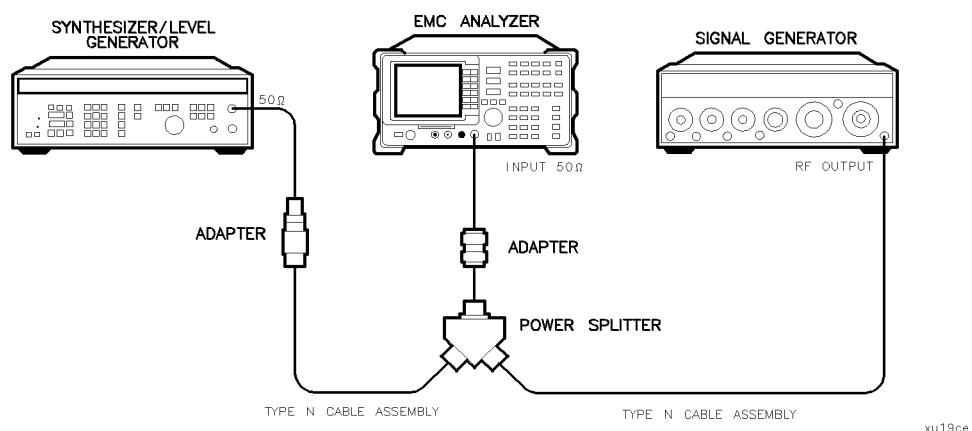

Figure 2-9.
1. Connect the equipment as shown in Figure 2-9. Note that the power splitter is used as a combiner.